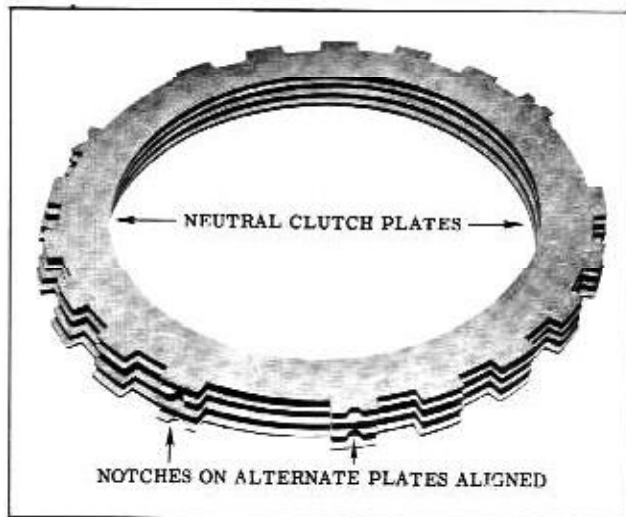

Fig. 3-100 Clutch Plate Alignment
- a. Position every other steel plate so that the notched lug is on the opposite side of the wide space. The steel plates must be installed one above the other in this arrangement to properly un-nest the clutch pack. (Fig. 3-100)